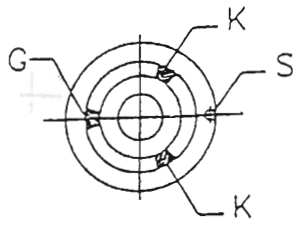

Fig 13-6
5. Rotate the grinding wheel 90 degree repeatedly and inspect each time whether the grinding wheel is balanced. If it is not balanced, adjust the positions of the balance pieces 'K' until the grinding wheel can be balanced (see figure 13-6).